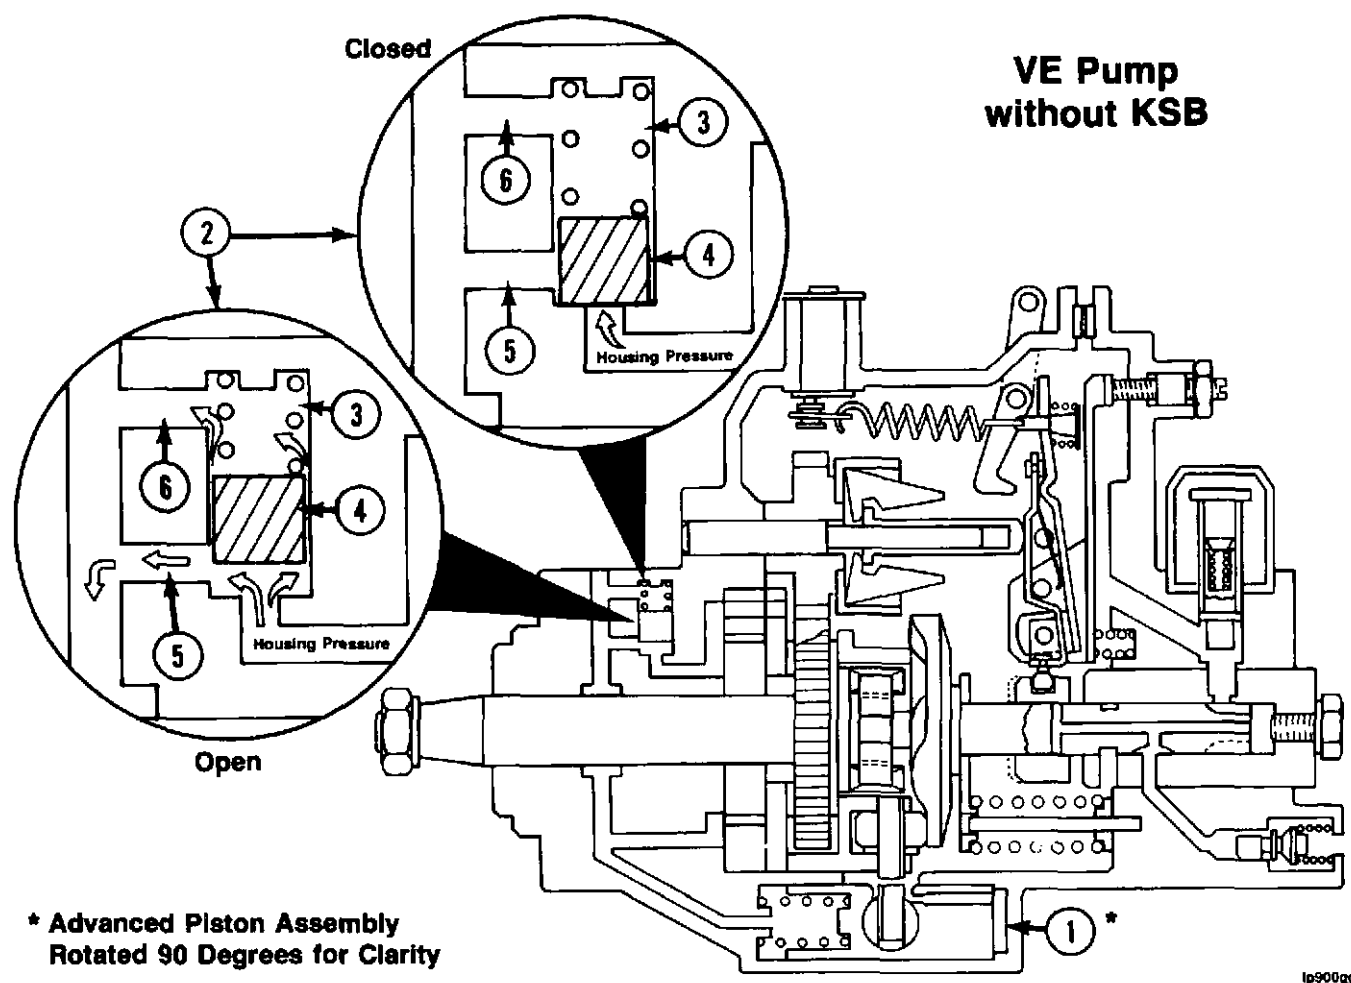

Figure 1, VE pump timing, regulated by opening and closing the pressure regulator valve
Pump housing pressure acts on an internal timing piston (1), Figure 1, to partially advance the injection timing at idle, and fully advance the timing when the engine RPM reaches approximately 60% of rated speed. As pump pressure increases, timing advances.
The KSB introduces a new fuel line (1), Figure 2, which routes fuel from the relief port (2) of the pressure regulator valve (3) to the plunger end (6), Figure 3, of the electrical solenoid, bypassing the normal return passage (6), Figure 1.
With the key switch on, current flows from the key switch line to the 90°F normally closed intake manifold switch to the 12V electrical KSB solenoid (see Figure 2). When the engine starts the pressure regulating valve (3) attempts to regulate fuel pressure as before (without KSB) but the fuel from the relief port (2) now meets a 'dead end' at the plunger of the KSB solenoid (6), Figure 4. With the key switch on, the plunger moves outward and closes off the flow of the fuel (8), Figure 4. This action hydraulically locks (closes) the pressure regulator slider valve (4), Figure 1.